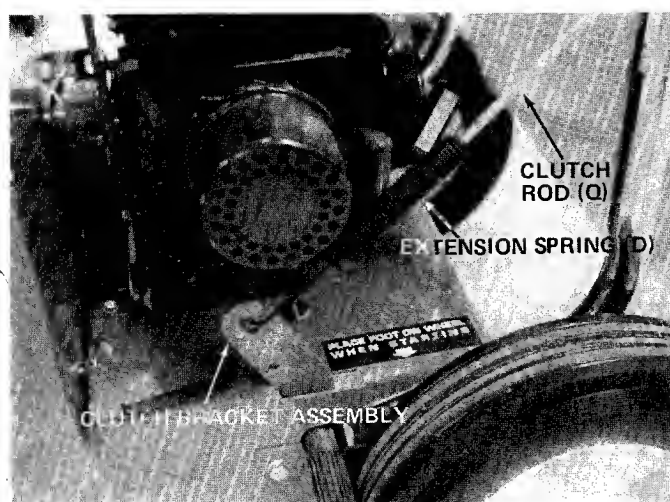

FIGURE 11.
8. Hook top (hooked end) of clutch rod into clutch grip. Hook spring into clutch bracket assembly. See figure 11. Spring should not have any slack. Adjust nut so that when the clutch grip is all the way up, there is no slack in the spring.